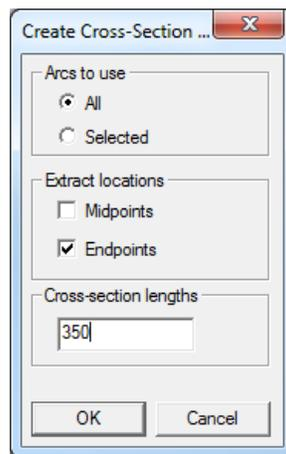

Figure 9 Values for Creating Cross Section Arcs from 1D Network
9. Make Sure the Dialog looks like  Figure 9 and click *OK*.